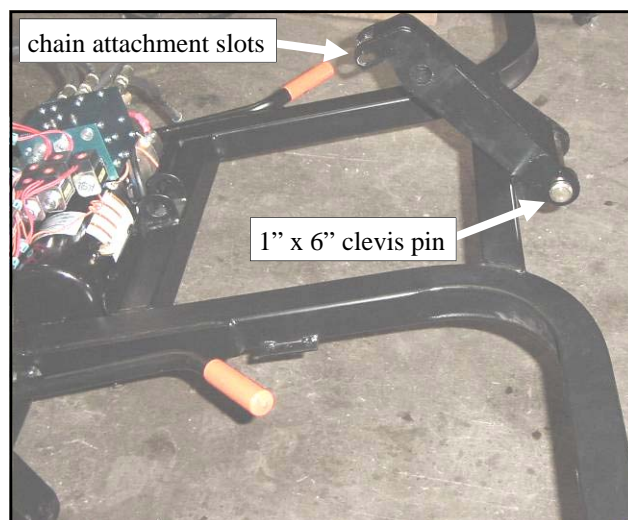

Fig. 7.1 (view of lift arm)
7.1 Fig. 7.1, attach the lift arm as shown with the slots pointing towards the pump. Use a 1" diameter x 6" long clevis pin and a cotter pin to connect the lift arm to the brackets on the top of the lift frame weldment.